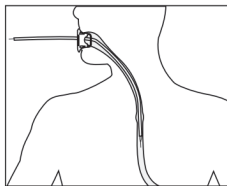

Fig. 13 Advance the Esophageal Stent System over the guidewire into the stricture.
5. Advance the Delivery System over the Guidewire and Position Stent (Refer to Fig.12 to Fig.13)